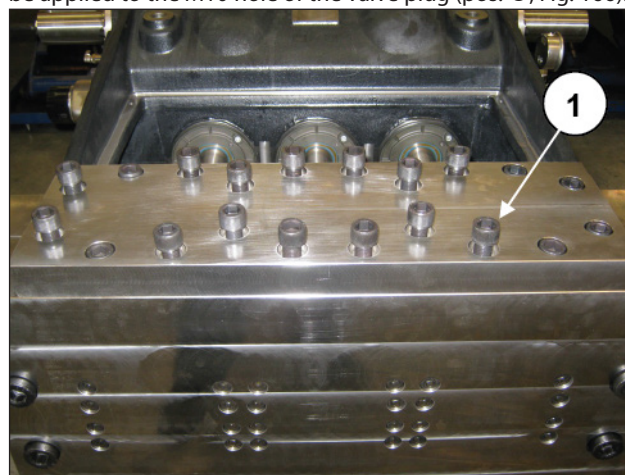
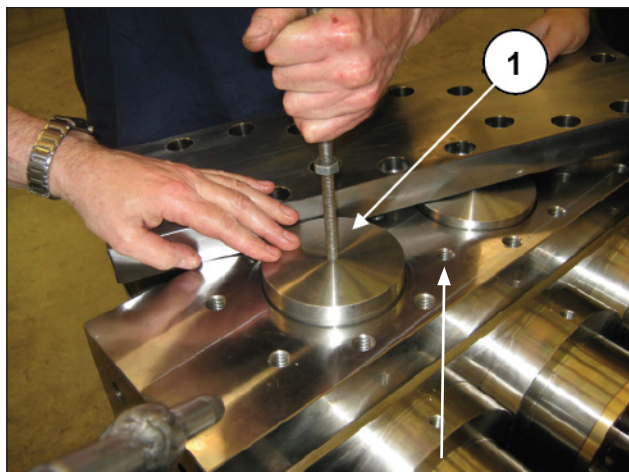

Fig. 165
Fig. 166
Undo the M16 screws and remove the valves cover (pos. ①, Fig. 165). Now extract the valve plugs with a slap hammer to be applied to the M10 hole of the valve plug (pos. ①, Fig. 166).